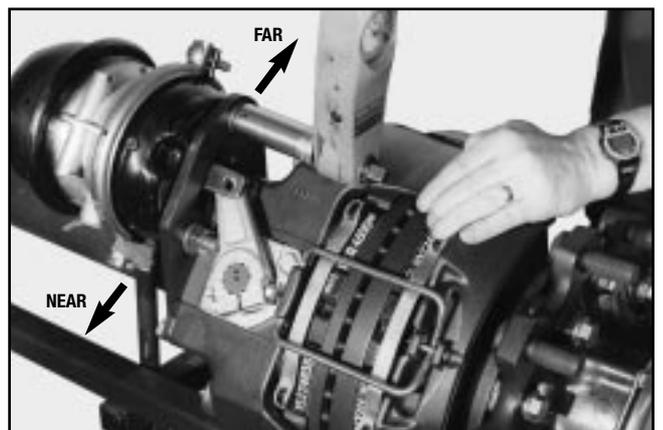

FIG. 24
5. Mount the air chamber to the caliper assembly.(Fig. 24). Tighten the air chamber nuts and washers to to the torque value specified in table 2. (Page 12)